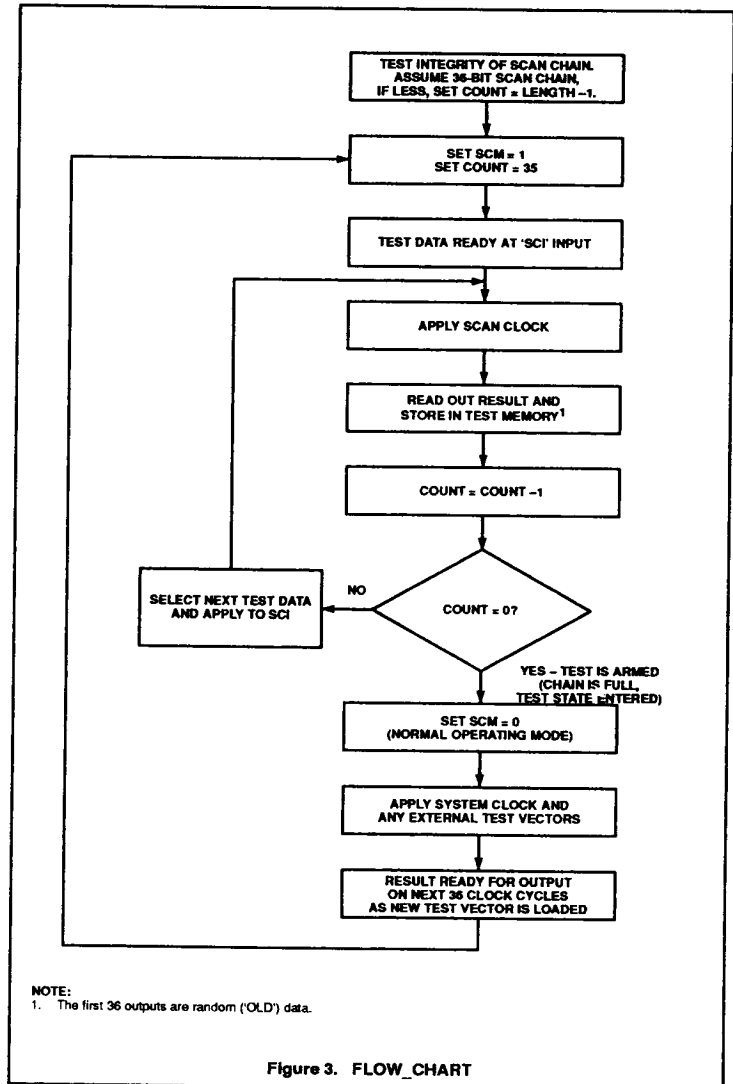

Figure 3. FLOW\_CHART
- Figure 3 (FLOW\_CHART) depicts a flow chart version of the test sequence.